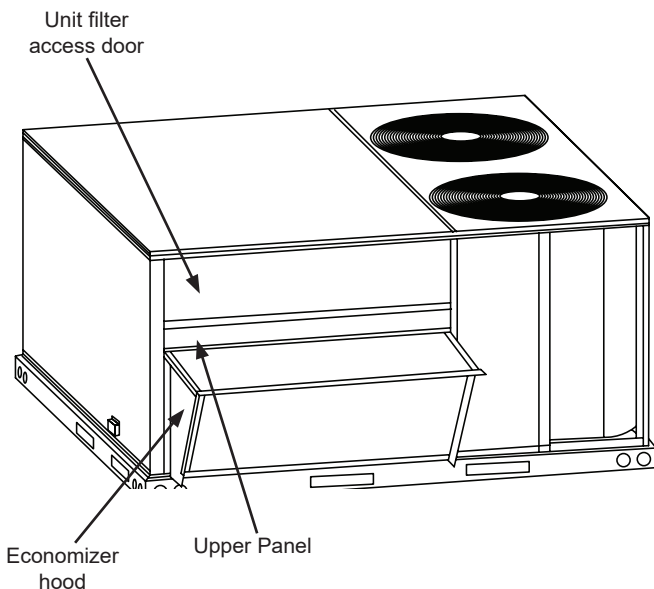

Figure 12
6. Screw hood to unit as shown in figure 12.